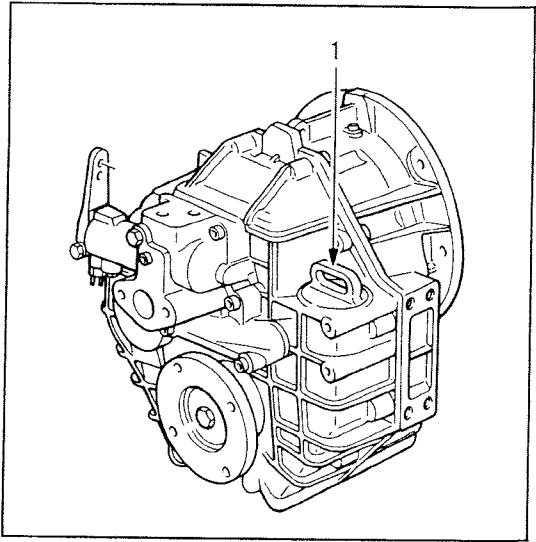
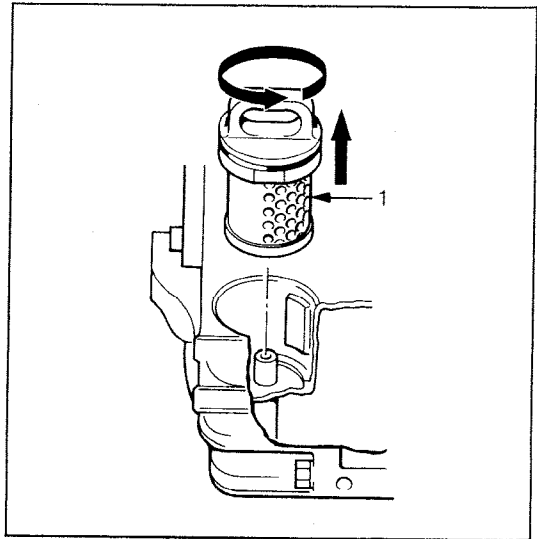

Figure 3
Figure 4
1. Turn filter cover (Figure 3, Item 1) counter-clockwise to loosen the fluid fine filter (Figure 4, Item 1).